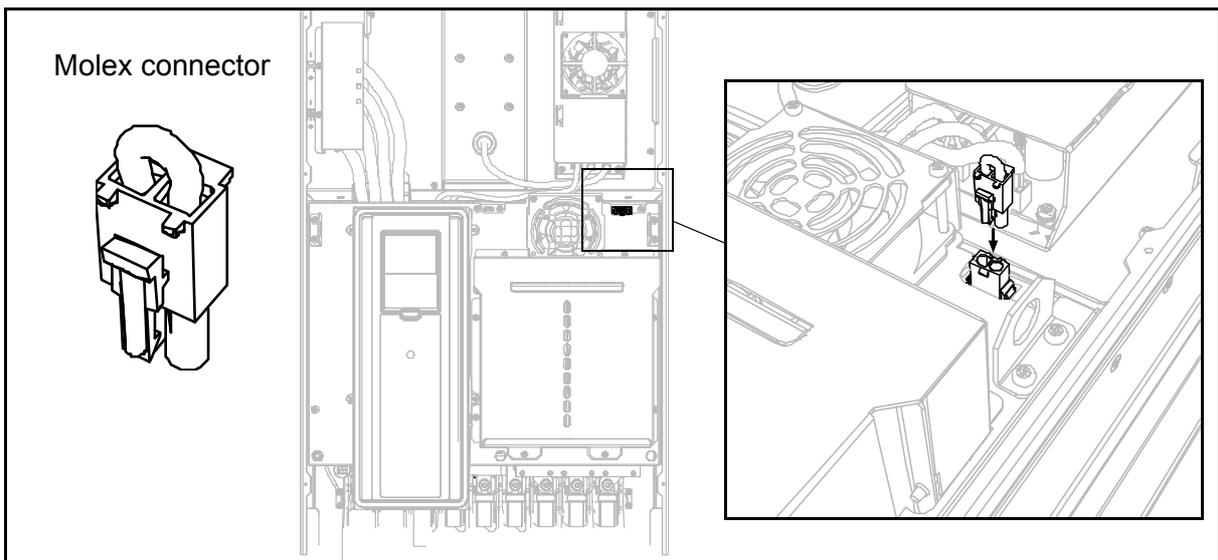

Figure 56.
**1** Find the *Molex* connector in the accessories bag. Remove the main cover of the drive and locate the place for the connector next to the fan. Push the Molex connector in its place. See Figure 56.